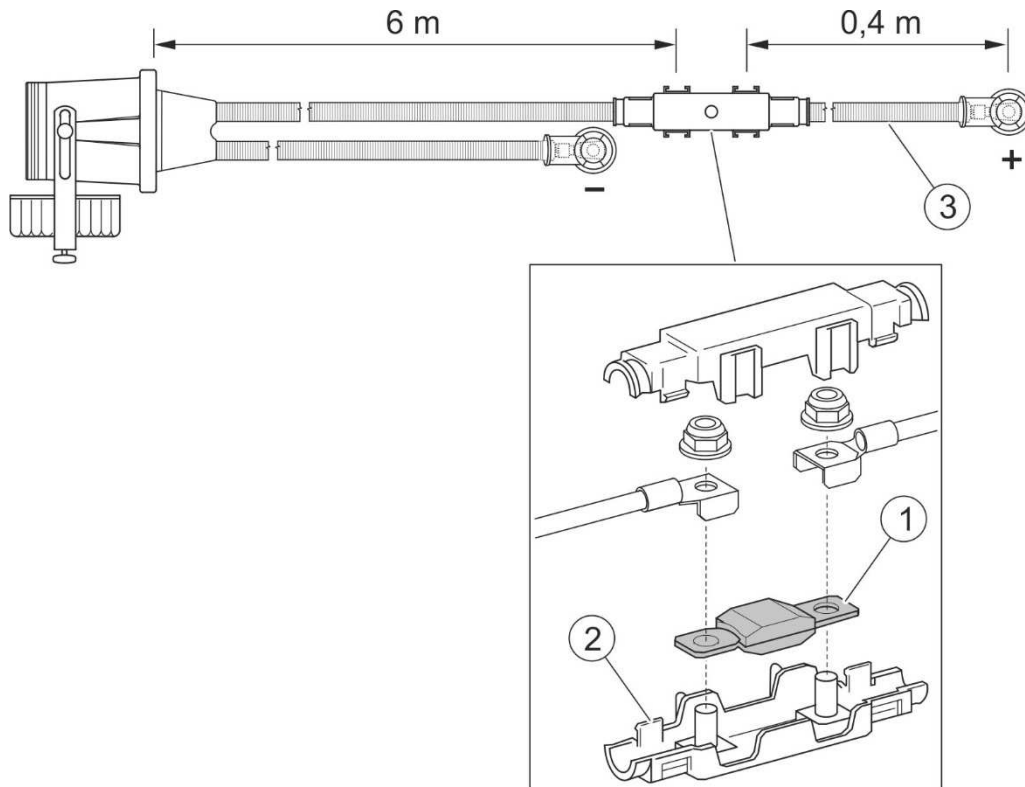

FIGURE 5.10 Fuse of power supply wiring harness (snowplough with Power-Pack hydraulic supply system).
(1) - 175A MEGAVAL fuse; (2) - fuse holder; (3) - power supply wiring harness with a high current socket installed in the carrying vehicle
On the wiring harness (3) (FIGURE 5.10) supplying the electrical system of the snowplough with Power-Pack hydraulic supply system, there is a 175A MEGAVAL fuse (1). To change the fuse, undo nuts fixing the leads inside the fuse holder (2).